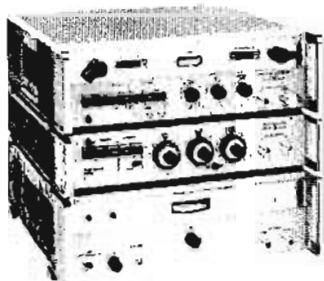

Figure 1. Full rack width cabinets stack one atop the other.
1. Those units which require the full EIA rack width (Figure 1). This class of instruments mounts directly in racks with the two brackets and filler-strip included with the instrument. Feet and tilt stand also are provided with full-module instruments for bench use, and the instruments can be stacked conveniently for maximum utilization of available space. For semi-permanent stacking, joining brackets are available which effectively combine two instruments into a single physical unit. Control panel covers are also available for these instruments to protect them in transit.